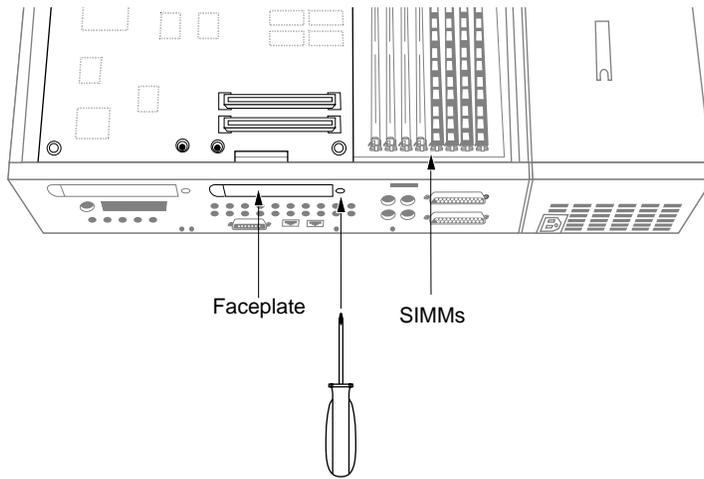

Figure 3-1 Removing the Faceplate From the GIO Option Port
3. If there is a faceplate covering the GIO option port closest to the SIMMs, use the Phillips screwdriver to remove the screw and washer. (See Figure 3-1.) (If you removed a GIO option board earlier in this installation, there will be no faceplate to remove.)